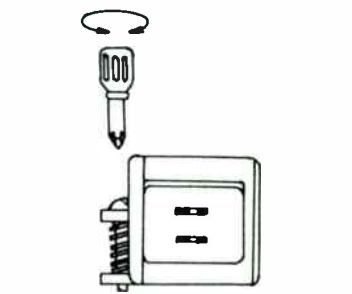

Fig. 7
- (b) Adjust volume control to medium position, and as shown on Fig. 7, align the head azimuth alignment screw with a Philips driver to obtain the maximum output of the set.